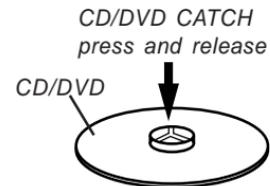

Figure 5
2. Press down the center of the CD/DVD catch to release disc (Refer to Figure 5)